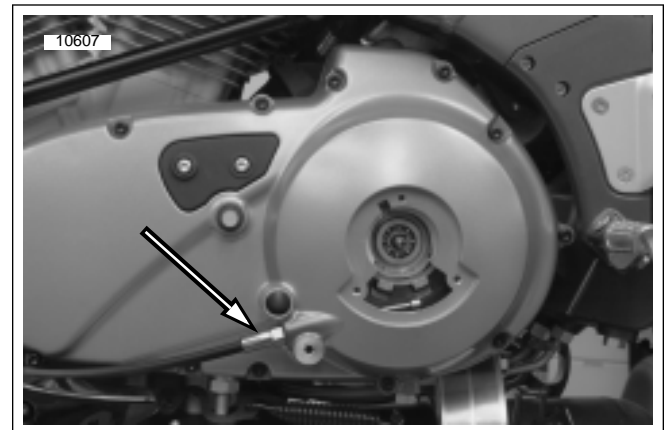

Figure 2-101. Clutch Cable and Fitting
17. See Figure 2-101. Unscrew the cable fitting from the primary cover. Remove clutch cable and fitting.